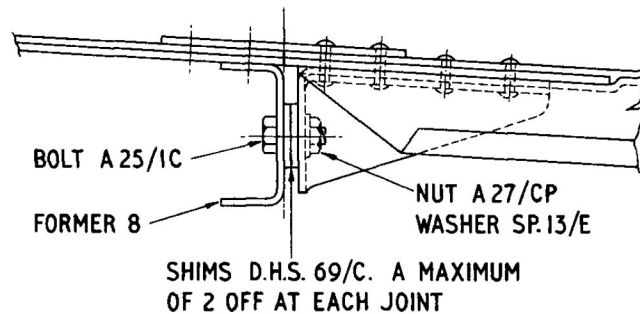

Fig. 2. Stringer bracket attachment
(4) Again check that the fin is vertical and that the three plumb lines are in alignment. If the rear fuselage stringer bracket lugs do not meet the rear face of former 8 and they should be packed with shims shown and secured with attachments shown in fig. 2.
(5) Drill for 5/32 in. dia. rivets in joint strap from the inside using the existing 1/8 in. dia. holes in the front portion as a template. Complete the fuselage by riveting up.